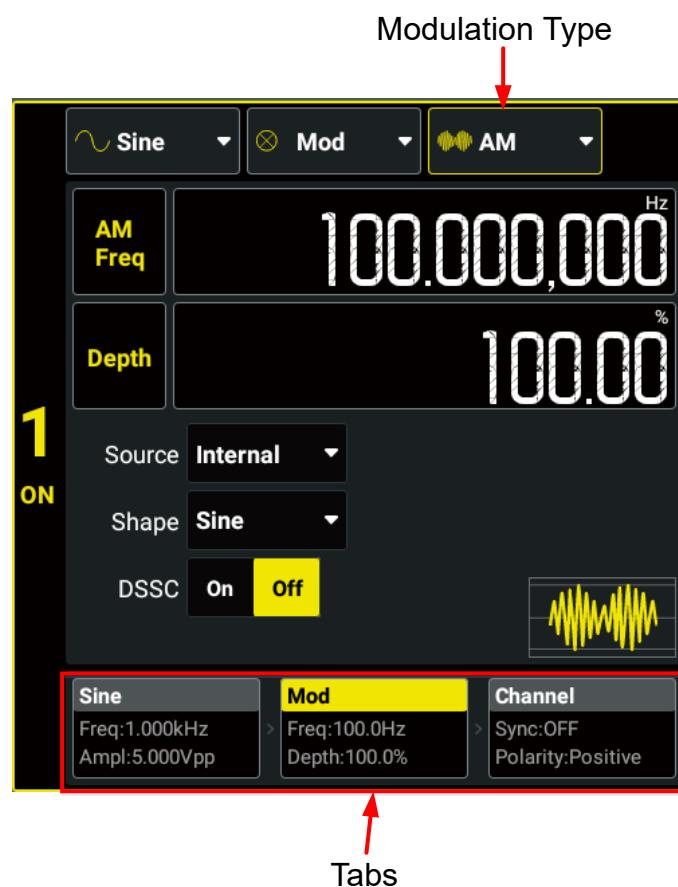

Figure 6.1 Modulation Setting Interface
"Interface" (*Figure 6.1*), click or tap the "Modulation Type" drop-down button to select "AM" and set its parameters.
In Frequency Modulation (FM), a modulated waveform consists of a carrier waveform and a modulating waveform. The frequency of the carrier waveform is varied by the instantaneous voltage of the modulating waveform. In the "Modulation Setting Interface" (*Figure 6.1*), click or tap the "Modulation Type" drop-down button to select "FM" and set its parameters.
In Phase Modulation (PM), a modulated waveform consists of a carrier waveform and a modulating waveform. The phase of the carrier waveform is varied by the instantaneous voltage of the modulating waveform. In the "Modulation Setting Interface" (Figure 6.1), click or tap the "Modulation Type" drop-down button to select "PM" and set its parameters.
With Amplitude Shift Keying (ASK), you can configure the instrument to "shift" its output amplitude between two preset values (called the "carrier amplitude" and the "modulation amplitude"). In the "Modulation Setting Interface" (*Figure 6.1*), click or tap the "Modulation Type" drop-down button to select "ASK" and set its parameters.